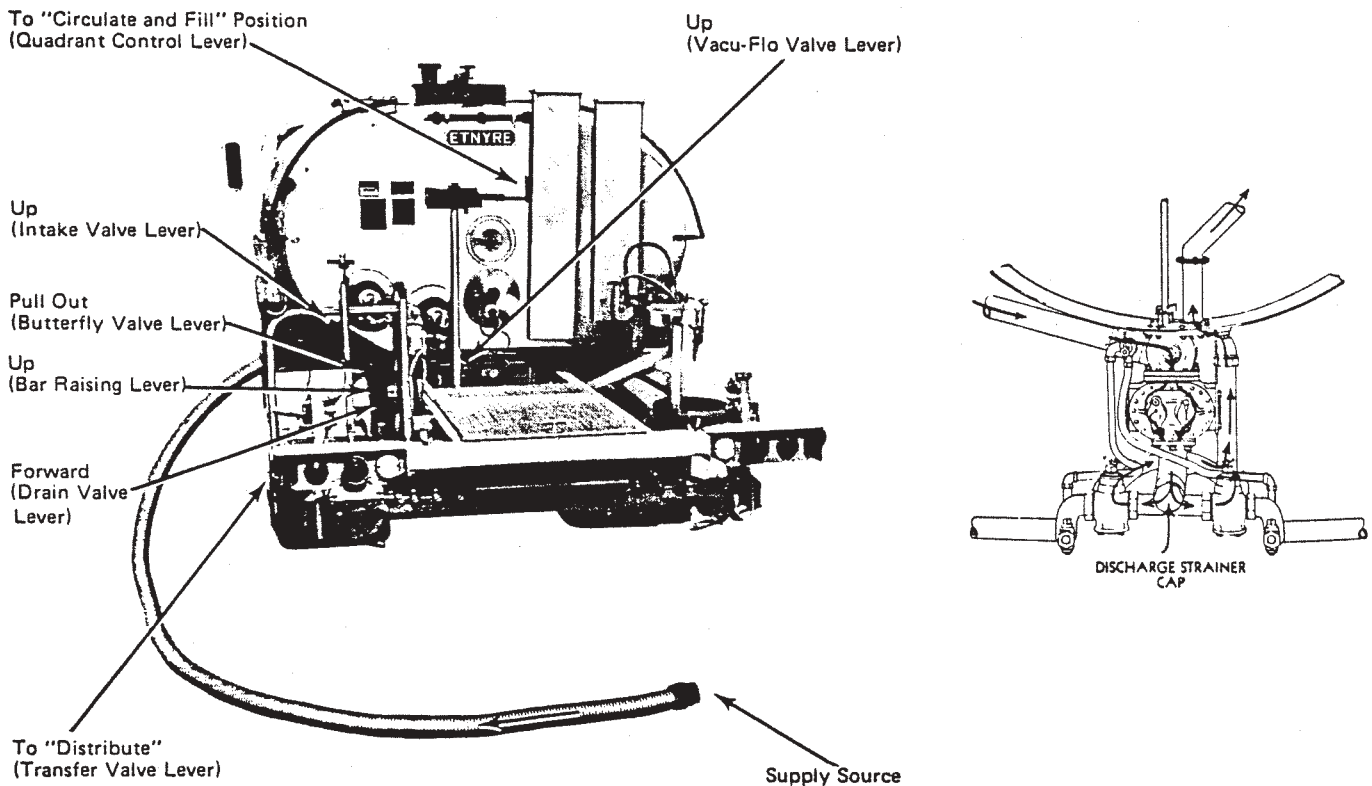

Figure 11. Filling From Supply Source
3. Set the operating valves and levers as shown in Figure 11.